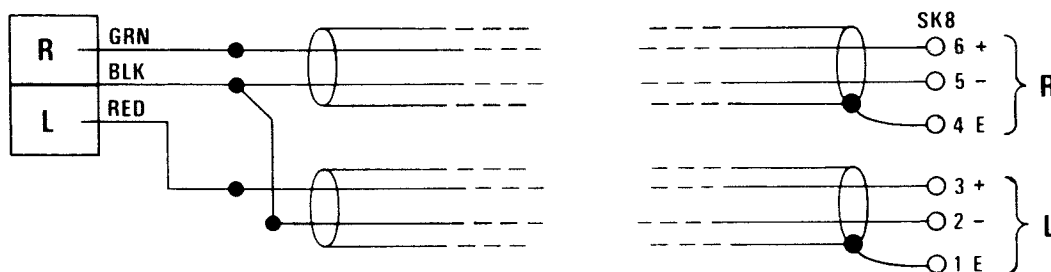

Fig. 7.2.1.1 Connection of cell using 2 x 2 - conductor cable
- (f) Install stereo solar cell assemblies on projectors. Accurate alignment of cell is not important at this point. The cell wires are color coded, red for the left channel, green for the right and black for the common (see Fig. 7.2.1.1).
- (g) Connect the cells to the appropriate CP50 input terminals (SK8) using 4-conductor shielded cable (or two 2-conductor shielded cables). See Fig. 7.2.1.1 for numbering of rear connectors. Connect the inner conductors to the projector input + and - terminals, maintaining correct phase relationships. Connect the shield at CP50 end only to terminals marked E (ground or earth) adjacent to projector input terminals.